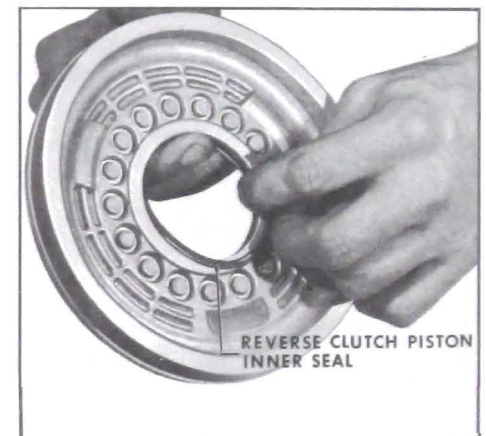

Figure 5-295
2. Lubricate with transmission oil and install reverse clutch piston inner seal. See Figure 5-295.